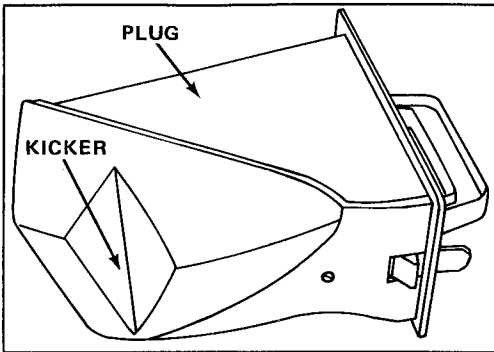

Figure 8
- C. A special plug which locks into the mower's discharge tunnel (a fifth kicker is on the plug) (Fig. 8)
Although the plug is used only for recycling, it is possible to mow without using the plug by closing the discharge tunnel door. However, your recycling will be much more effective if you use the plug as it has an additional kicker (Fig. 8) that helps drive the clippings down into the grass.